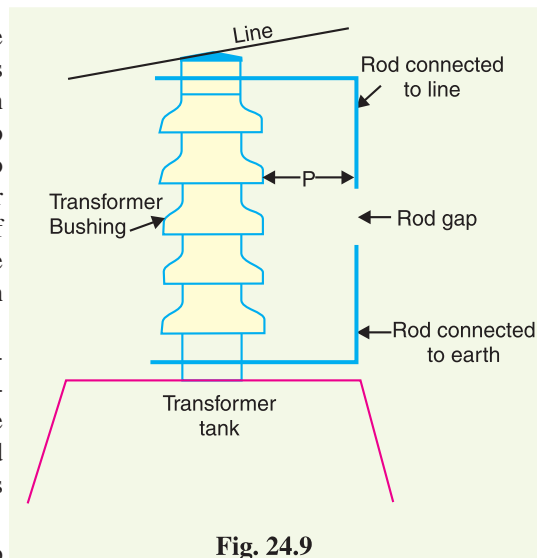

Fig. 24.9
**1. Rod Gap Arrester.** It is a very simple type of diverter and consists of two 1.5 cm rods which are bent at right angles with a gap inbetween as shown in Fig. 24.9. One rod is connected to the line circuit and the other rod is connected to earth. The distance between gap and insulator (*i.e.* distance  $P$ ) must not be less than one-third of the gap length so that the arc may not reach the insulator and damage it. Generally, the gap length is so adjusted that breakdown should occur at 80% of spark-over voltage in order to avoid cascading of very steep wave fronts across the insulators. The string of insulators for an overhead line on the bushing of transformer has frequently a rod gap across it. Fig. 24.9 shows the rod gap across the bushing of a transformer.